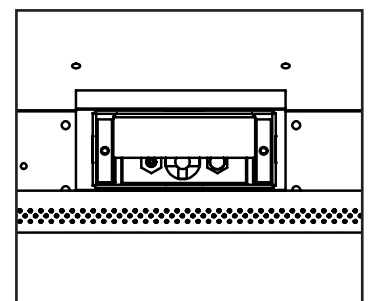

Figure 15: Ignitor assembly beside the burner.
- 8. Reinstall the burner, brick panels, log set, embers, and glass door. Also refer to SECONDARY INSTALLATION - INSTALLING LOG SET AND EMBERS in your Owner's Manual. When re-installing the burner, ensure that the burner to pilot hood relationship is similar to what is shown in Figure 15. On some units you will need to pay special attention when installing the burner that the venturi adjustment rod is properly installed into the venturi adjustment piece welded to the burner venturi tube